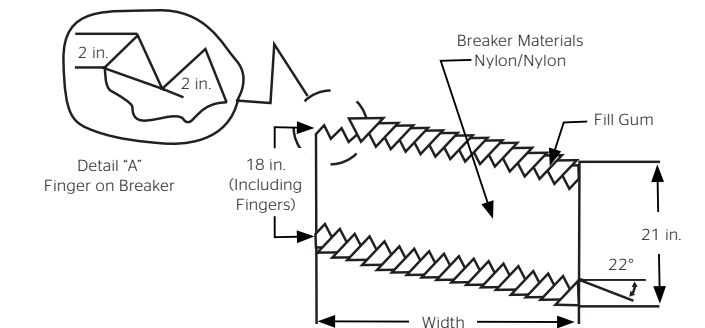

Fig. 6-7: Breaker: detail geometry
- Fig. 6-7 shows the breaker with 2 in. fingers